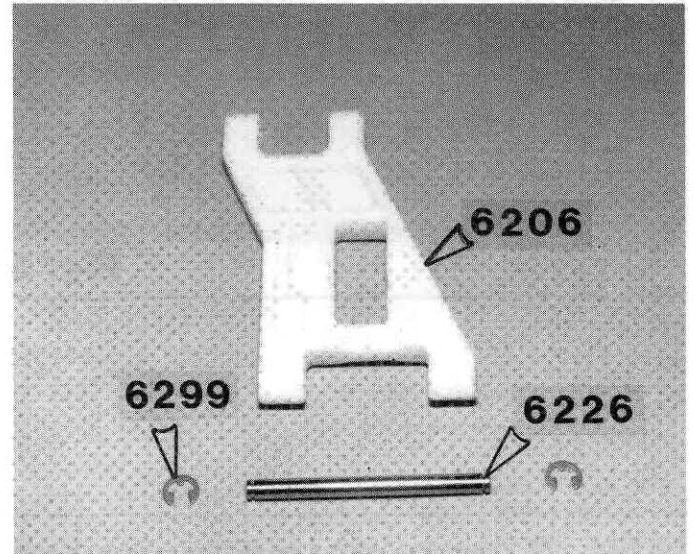

Fig. 7
□ **Fig. 7** In the same bag, take out the #6206 L.H. front A-arm, the #6226 inner pin and the package of "E" clips, as shown.